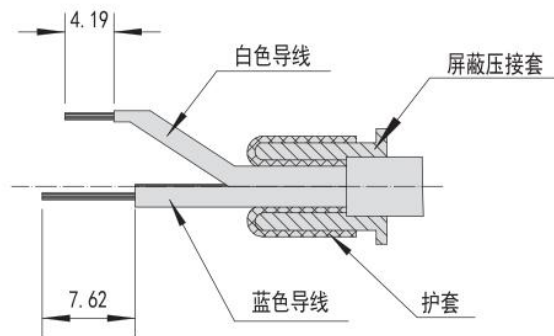

Figure 3.2
② As shown in Figure 3.2, Cover the cable jacket on the shielding crimp sleeve. Cover the shielding layer on the shielding crimp sleeve. Peel the inner wires as shown. (The fill can be cut off close to the shield)